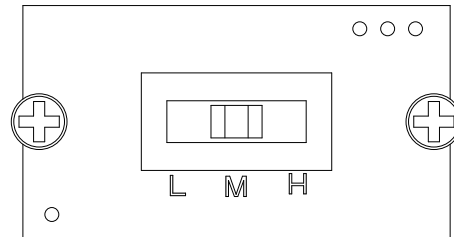

Figure 2
1. Adjust the switch to the desired wattage. (see Fig. 2)